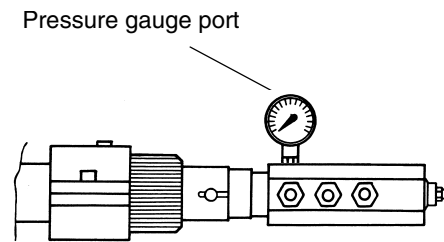

Fig. 30
- 9 the nozzle supply pressure is already factory-set and must not be changed. Only if necessary, adjust the supply pressure as follows (see related paragraph); insert a pressure gauge into the port shown on Fig. 30 and act on the pump adjusting screw **VR** (see Fig. 28 and further description on page 20) as to get the nozzle pressure at 25bar (according to the nozzle model provided-see page 29).